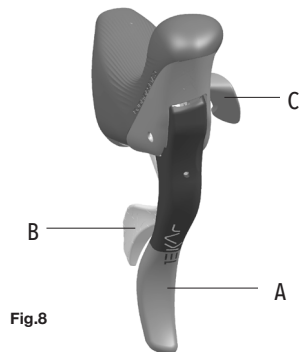

Fig.8
- Lever B (**Fig. 8**) on the right-hand control set operates the rear derailleur, lifting the chain onto the next highest sprocket.
- Lever B (**Fig. 8**) may be pushed by multiple consecutive clicks to lift (by up to 3 sprockets) the chain in a single action.
- Lever C (**Fig. 8**) on the right-hand control set operates the rear derailleur, dropping the chain onto the next lowest sprocket.